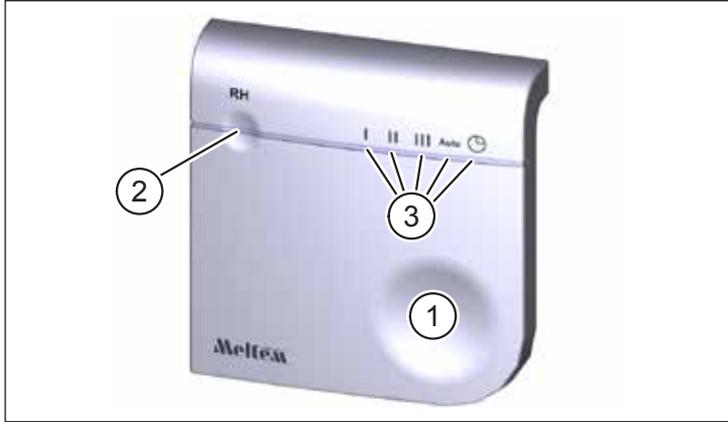

Fig. 1: External wireless humidity sensor
Item in Fig. 1	Description
The wireless humidity sensor is used for wireless operation of ventilation units from the M-WRG-II and M-WRG series constructed from 2020 onwards (excluding bus unit types). It can also be used to determine the humidity level at an installation location selected by you, provided that it is within the wireless range. The “Humidity control” and “Automatic mode” ventilation programs use the transmitted values to automatically adjust the unit’s air flow to the required ventilation level. One wireless humidity sensor may be linked to each ventilation unit. If the ventilation unit has an internal humidity sensor, it will be automatically disabled. The wireless humidity sensor incorporates the humidity control function into ventilation units without an internal humidity sensor. The control button (item 1 in Fig. 1) is used to activate five different ventilation levels/programs. The current selection is indicated by one of the five green mode LEDs (item 3 in Fig. 1). The multi-coloured status LED (item 2 in Fig. 1) signals the wireless sensor and ventilation unit operating statuses. If the relative room air humidity exceeds 60 % RH (factory setting) in the “Humidity control” or “Automatic mode” ventilation program, the ventilation level is increased continuously up to max. 60 m³/h until the humidity in the room drops back below 60 % RH.
- ▶ Tap the control button (item 1 in Fig. 1). The ventilation unit gives an audible signal when the connection is established and the status LED flashes green.
- ▶ Tap the control button (item 1 in Fig. 1) to check the current status. This is signalled by the status LED (item 2 in Fig. 1) and the mode LEDs (item 3 in Fig. 1).
The status LED (item 2 in Fig. 1) provides the following feedback when the control button (item 1 in Fig. 1) is pressed: